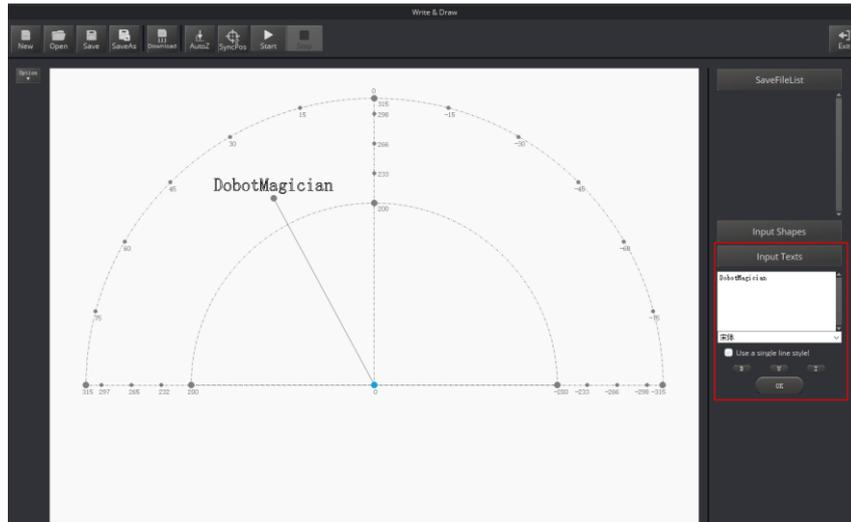

Figure 5.73 Input text
- Click **Input Texts** on the **Write & Draw** page to input texts, and set its style, and then click **OK** to display the text on the annular area, as shown in Figure 5.73.